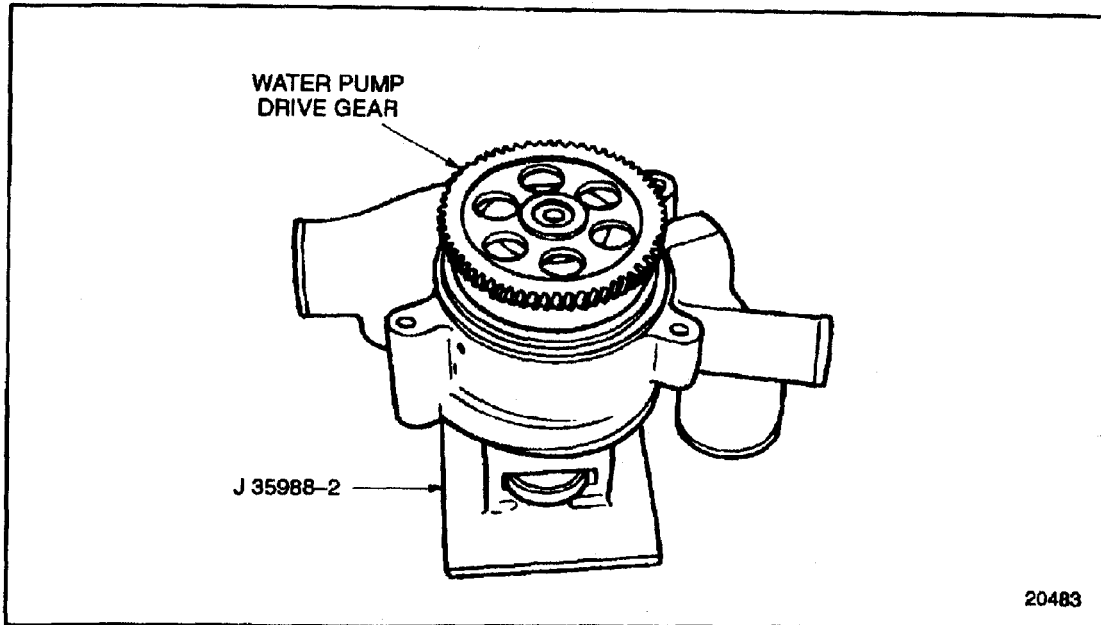

Figure 4-33 Water Pump Drive Gear Installation (GCM)
23. Turn the housing over and place it face (impeller side) down on the fixture J 35988-2 , part of tool set J 35988-B. See Figure 4-33.